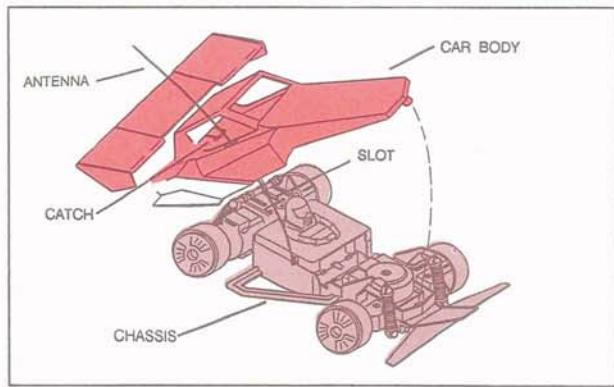

FIG. 84
4. Thread the antenna through the hole on the right side of the car body. Position the catch on the rear of the body with the slot in the chassis (directly behind the PC board cover), as shown in Fig. 84.